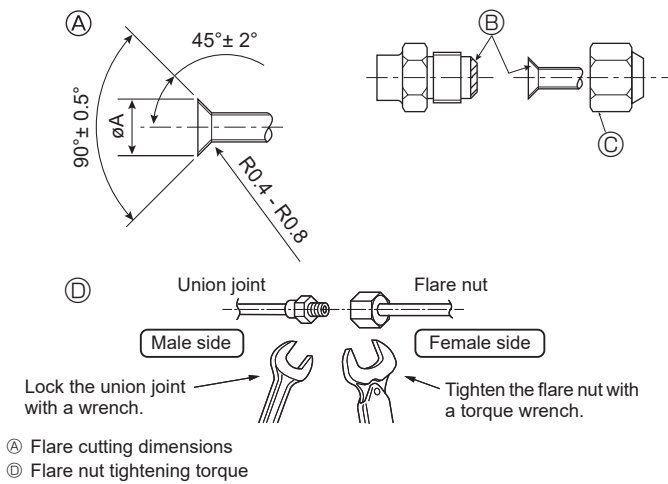

Fig. 4-6
Ⓐ (Fig. 4-6)
Ⓒ (Fig. 4-6)
4.4. Connecting pipes (Fig. 4-6)